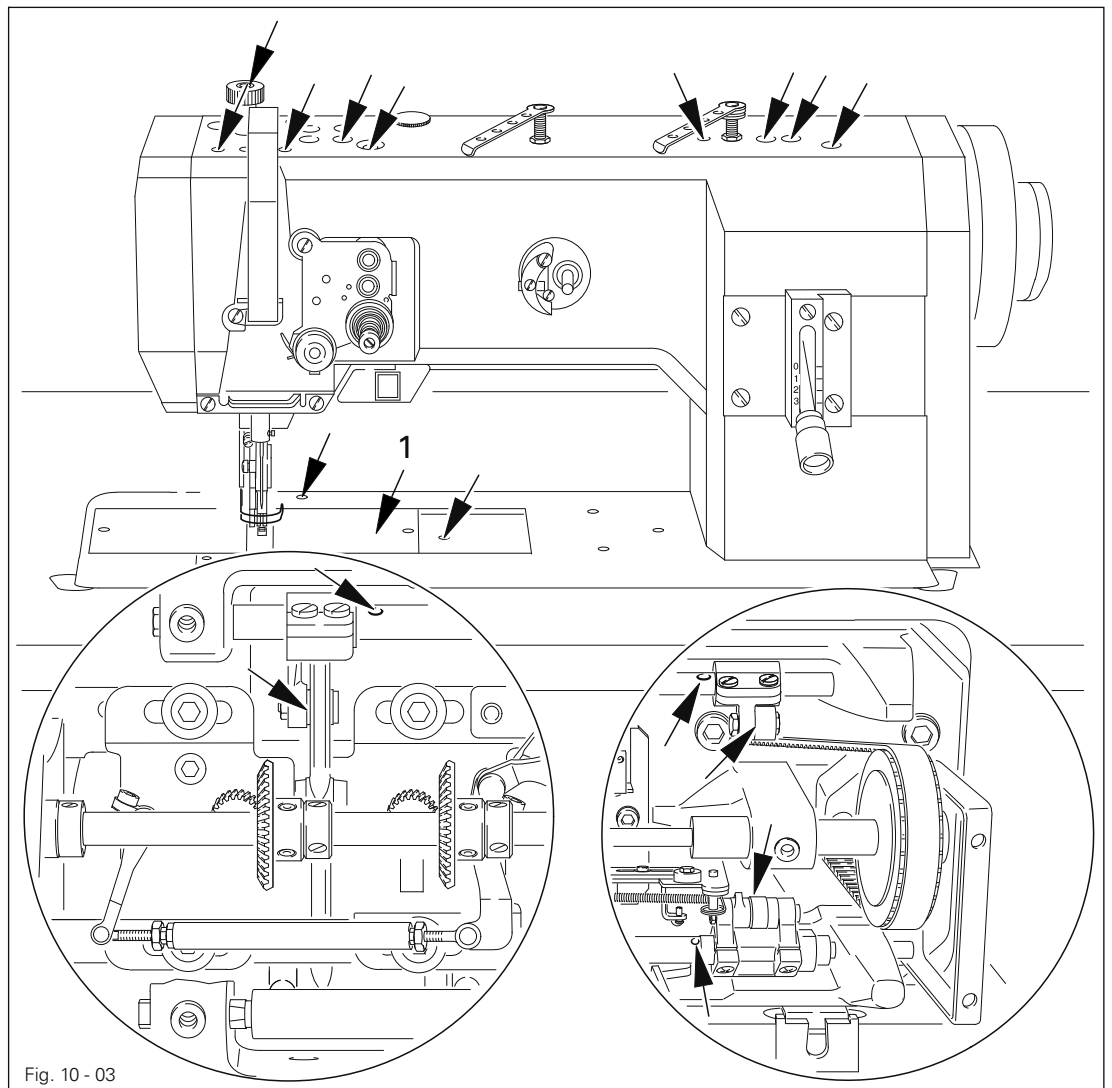

Fig. 10 - 03
- Lubricate all bearings and moving parts marked in Fig. 10 - 05 twice a week.